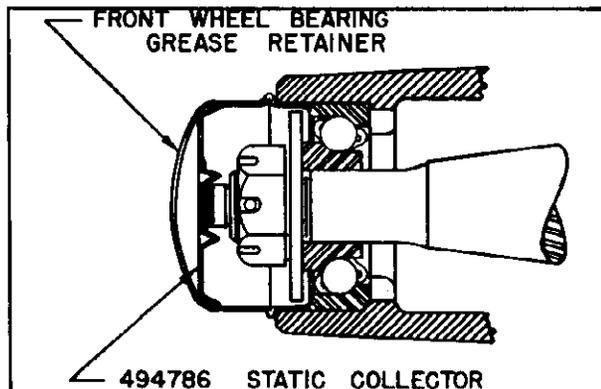

Figure 59
3. Remove front wheel hub and dust caps and install front wheel static collectors. Remove any grease from hole center of spindle to make a good connection, bend cotter pin to clear static collector. (See Figure 59.) These cannot be used on the 1-1/2 and 2 ton models.